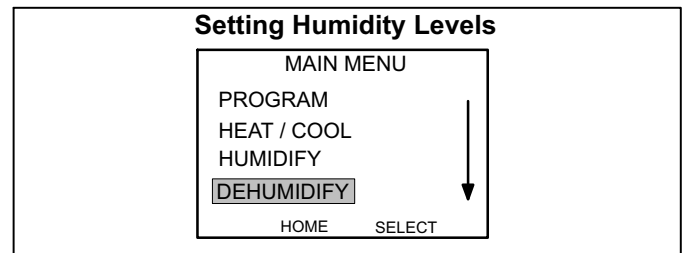

FIGURE 12
- 2 - Use the UP or DOWN button to highlight DEHUMIDIFY. See figure 12.